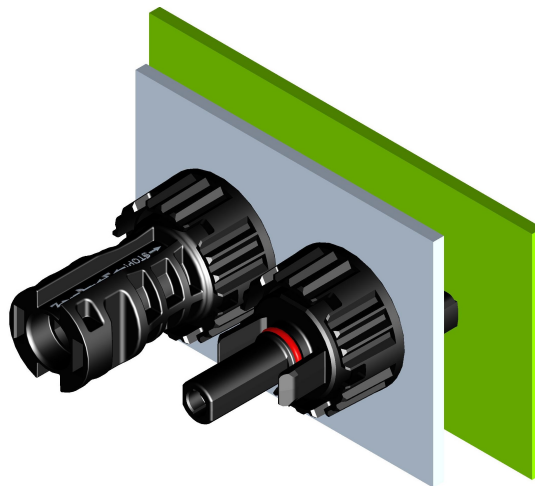

Figure 3
- ✧ 安装公/母面板连接器时，推荐用 2.0 ~ 3.0 N.m 的扭矩锁紧螺母。具体情况，需要由终端用户根据不同的面板验证合适的扭矩(如图 3)。
When installing the male or female panel connector, it is recommended to lock nut by 2.0 ~ 3.0 N.m torque. The appropriate torque has to be verified in the end use according to the respective housing (Fig.3).